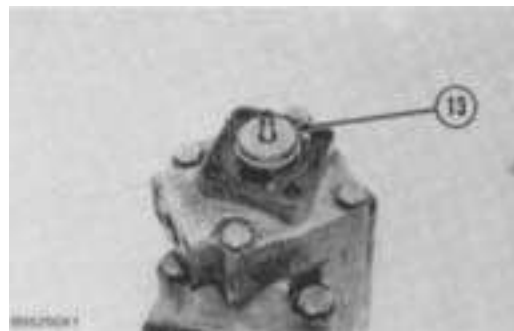

FIGURE 7-14
- To prevent the vanes from falling out of their slots, wind a rubber band around the rotor assembly (13, Figure 7-14). Remove the rotor assembly. Use a piece of paper to mark down the position of each vane before removing the vanes from the rotor. This will help return each vane to the slot that it was removed from. Remove the vanes from the rotor.